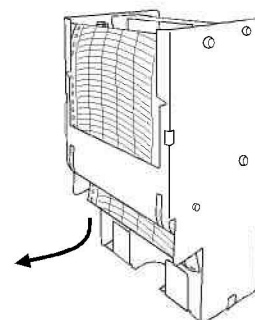

Fig. 4
4. Disconnect the connector and take out the battery. (Fig. 4)
The used chart paper left in the used chart compartment can cause a malfunction. Be sure to remove it. See Fig. 4.